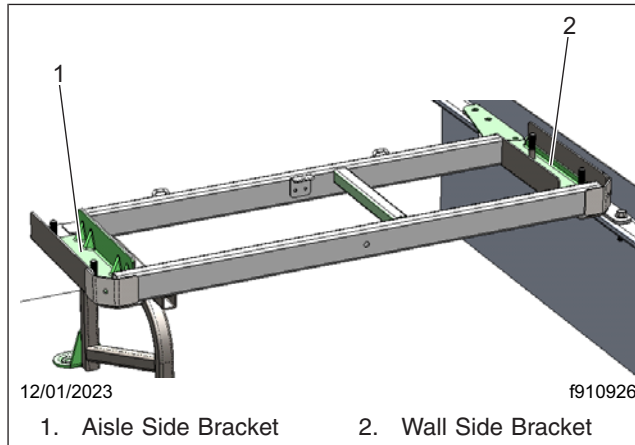

Fig. 4, Placing the Brackets Over the Side Channel Studs
7. Place the supplied wall side bracket and the aisle side bracket over the side channel studs. See Fig. 4.